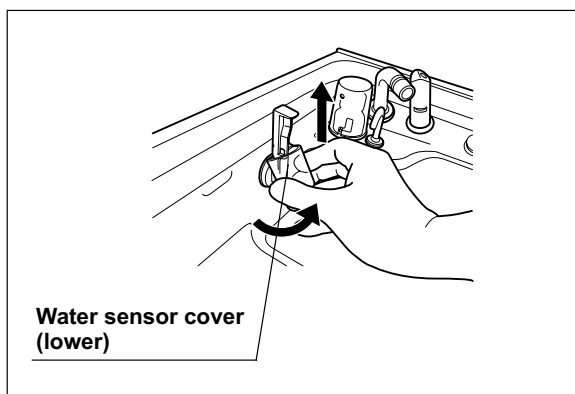

Figure 5.12
3. Lift the lower part of the water sensor cover (lower) and pull it up to remove as shown with the arrow in Figure 5.12.